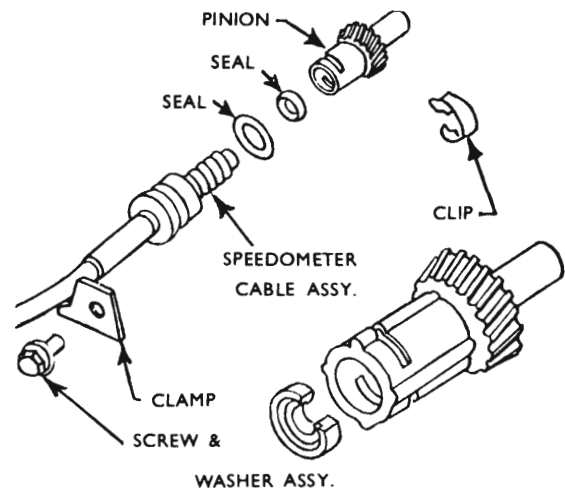

Fig. 11 - Speedometer drive pinion assembly - disassembled view
(1) The speedometer drive pinion assembly is retained in the extension housing with a clamp and screw (refer Fig. 11).